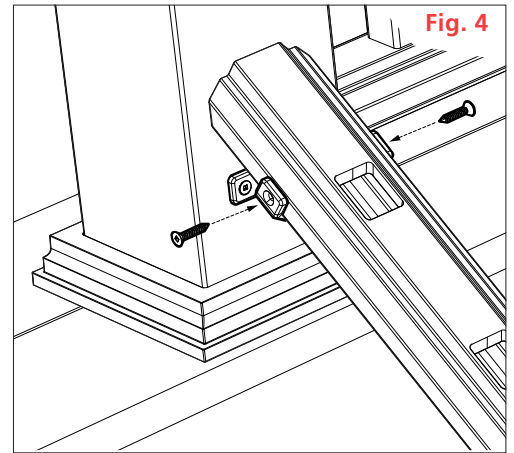

Fig. 4
- 5 To install the bottom rail brackets, place the bottom of the bracket on the top edge of the Marquee Post Ring and center on post. Secure in place using two of the screws provided in the Marquee Straight Bracket Kit. Use 2" screws when mounting to a wood post or the 1-1/4" screws when mounting to Marquee Post Mount. Repeat on post at opposite end of rail section. **(Fig. 4)**
- 5 Insert bottom rail into the brackets, making sure the rail is level at desired angle. Secure the bottom rail in place by installing two self-drilling 1" screws provided in the Marquee Stair Bracket Kit on each side of the brackets. Repeat on post at opposite end of rail section. (Fig. 4)
**NOTE:** For 38" Post Mount Systems, a portion of the 5-1/8" threaded rods may need to be removed for proper post ring fit. If required, carefully trim the threaded rods ensuring that a minimum of three threads remain above each of the stainless steel nuts. **(Fig. 4)** Recheck and reapply the required torque on each of the hex nuts.